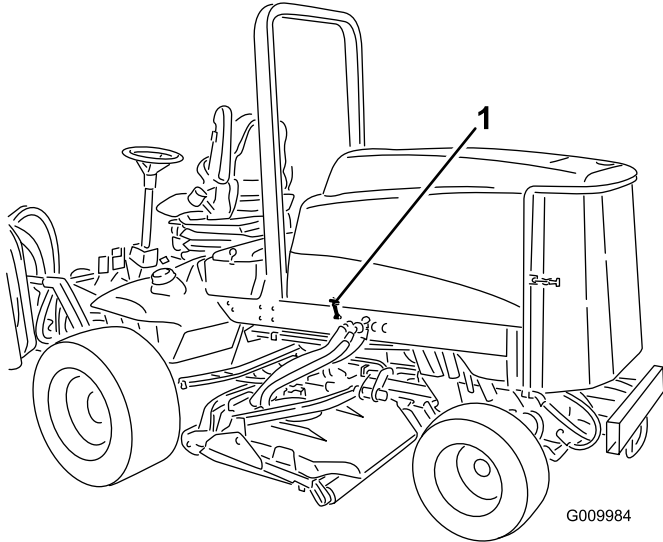

Figure 24
1. Release the hood latches (Figure 24) and pivot the hood open.